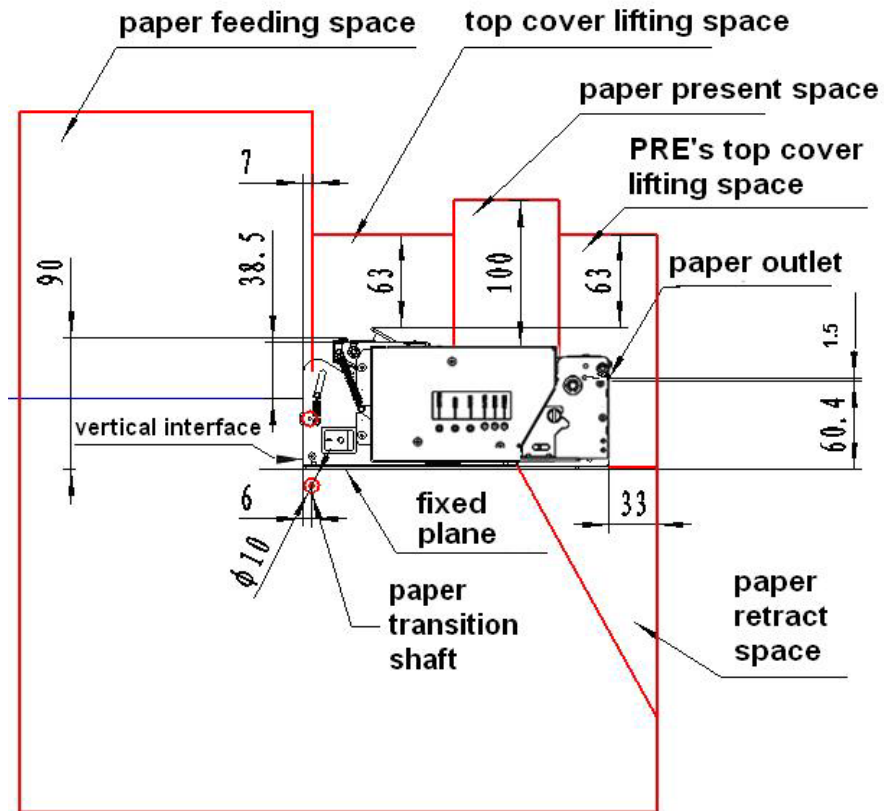
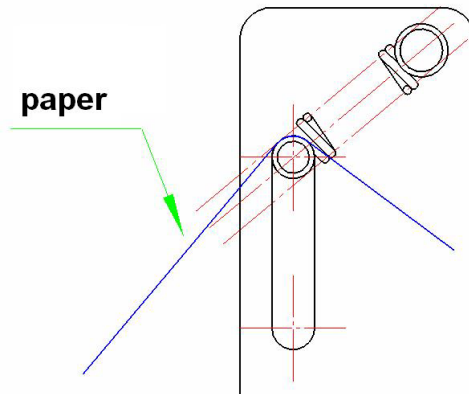

Figure 2.7.3 Structure without paper holder
Figure 2.7.8 Buffer explanation
- **J:** paper feeding space allowed by the paper roll; If your printer doesn't have paper holder or the paper holder is made by yourself, please consider the space. (figure 2.7.3) There is a blue line in the space. If paper feeding is controlled above the blue line, your printer is considered to be horizontal .Or else, it is vertical. For horizontal type, you had better control the paper roll above the space, mainly in order to use the buffer mechanism of print mechanism to avoid compression. For vertical type, Please add buffer mechanism to paper holder (as figure 2.7.8). In addition, if paper feeding touches vertical critical interface (as figure 2.7.3), please add paper transition roller to the paper holder in order to avoid that paper touches metal parts directly , causing paper damaged.